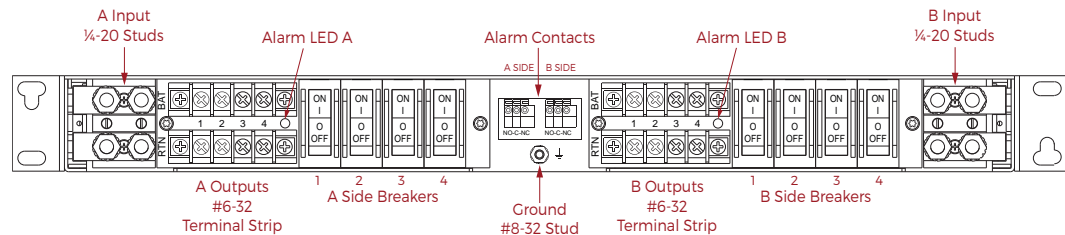

Figure 3. DPBF1U Front Panel View
9.1 Front View. Figures 3 and 4 show the front of the DPBF1U and DPGF1U distribution panels respectively. Inputs are at the left and right ends of the back panel. Side A outputs are at two rows of barrier terminal strips on the left side, and side B outputs are the same on the right side. At the center of the back panel are two spring clamp terminal blocks for the Form C relay contact outputs.